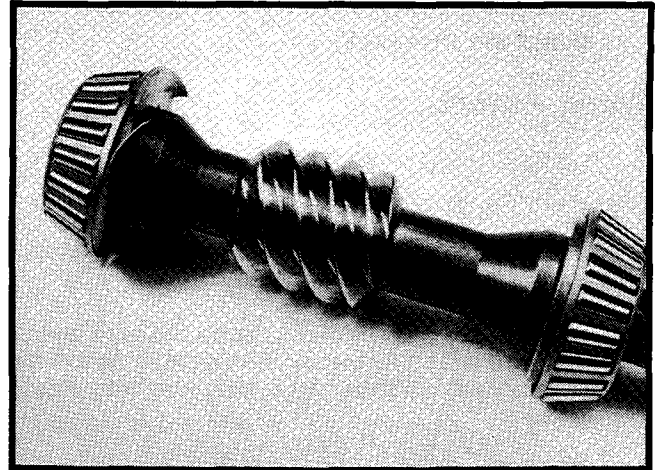

Figure 12.
3. Press the bearing cone on using a bearing cone driver and an arbor press, press on the outer bearing first. Fit oil slinger to the other end of the worm shaft and press the inner bearing down tight against the convex side of the oil slinger. See Figure 12.